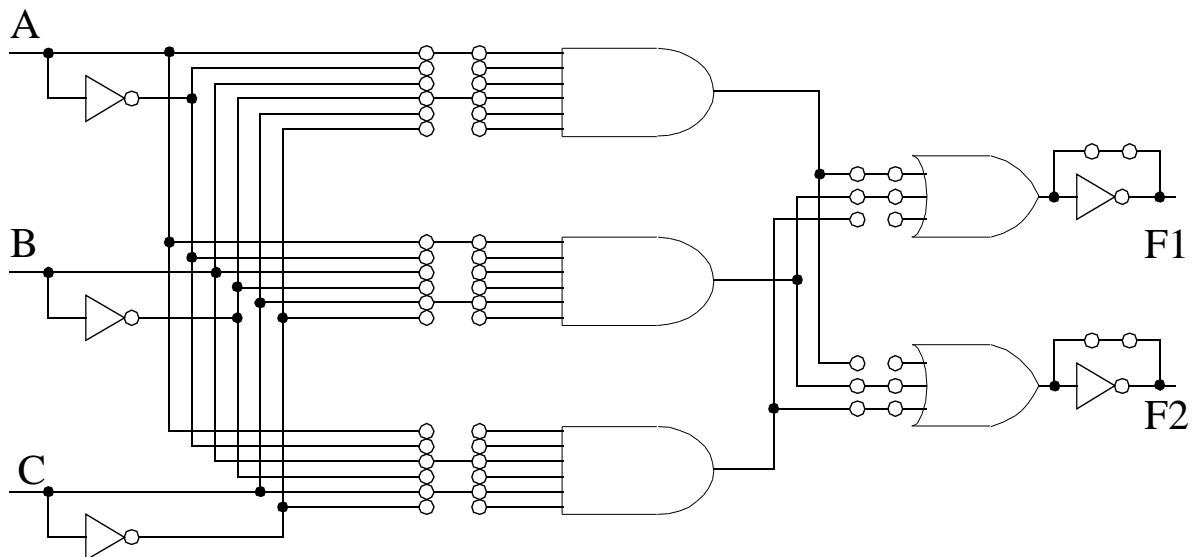
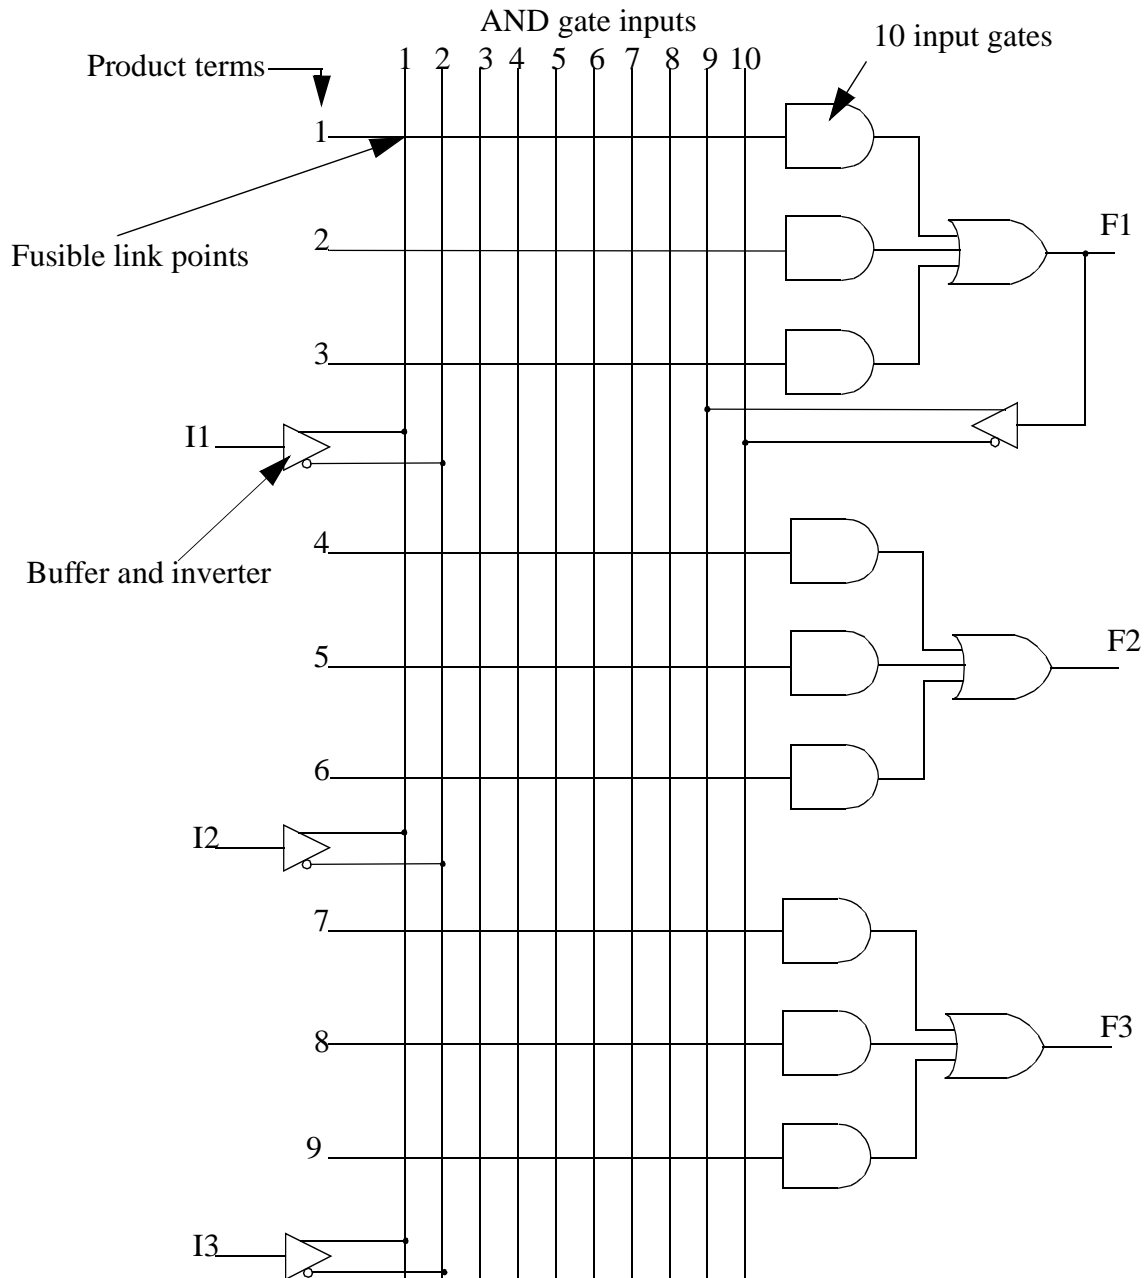

Figure 1 : Typical PLA layout
Figure 2 : Classic PAL logic structure
- 1980's – growth of the PLA (Programmable Logic Array) and PAL (Programmable Array Logic) chip technology. Allowed a number of product terms to be once only programmed into a single integrated circuit. Only implemented combinational circuits. See Figure 1 and Figure 2.